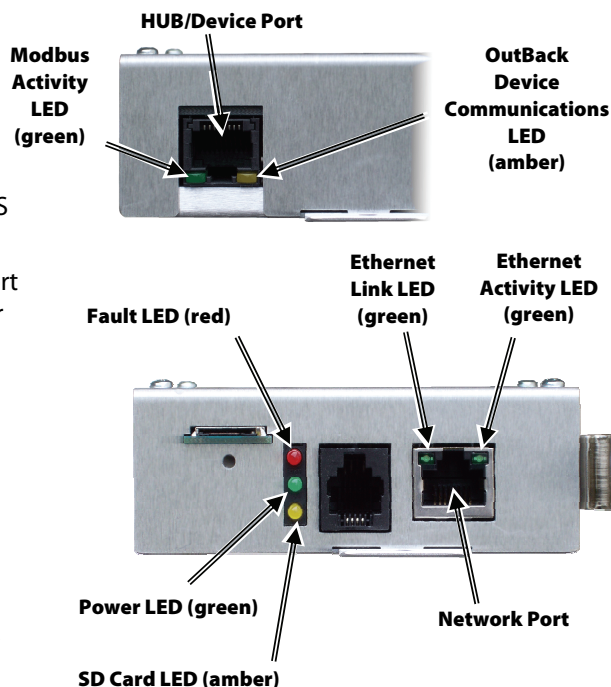

Figure 6 LED Indicators
1. Connect the CAT5 cable from the OutBack device to the connection labeled "HUB Port" on the AXS Port. The Power LED will illuminate. (See Figure 6.)
3. Connect the other end of the network cable to the network or Internet. When an Ethernet link is established, the Ethernet Link LED will illuminate. (See Figure 6.)
When the SD card is inserted correctly, the SD Card LED will illuminate. (See Figure 6.)